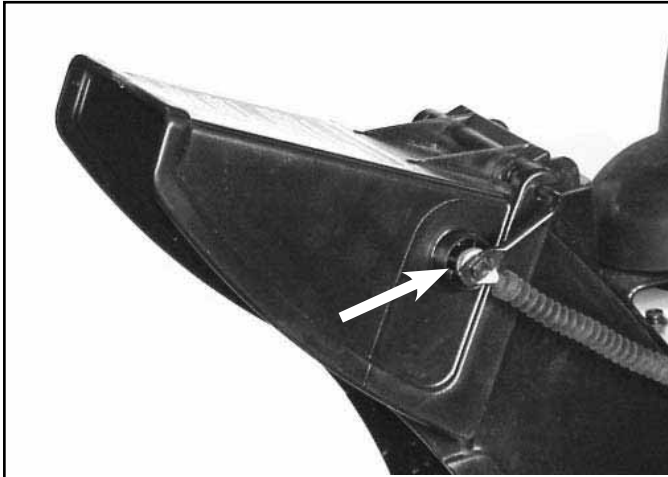

Fig 206
1. Disconnect the deflector cable from the deflector (Fig. 206).